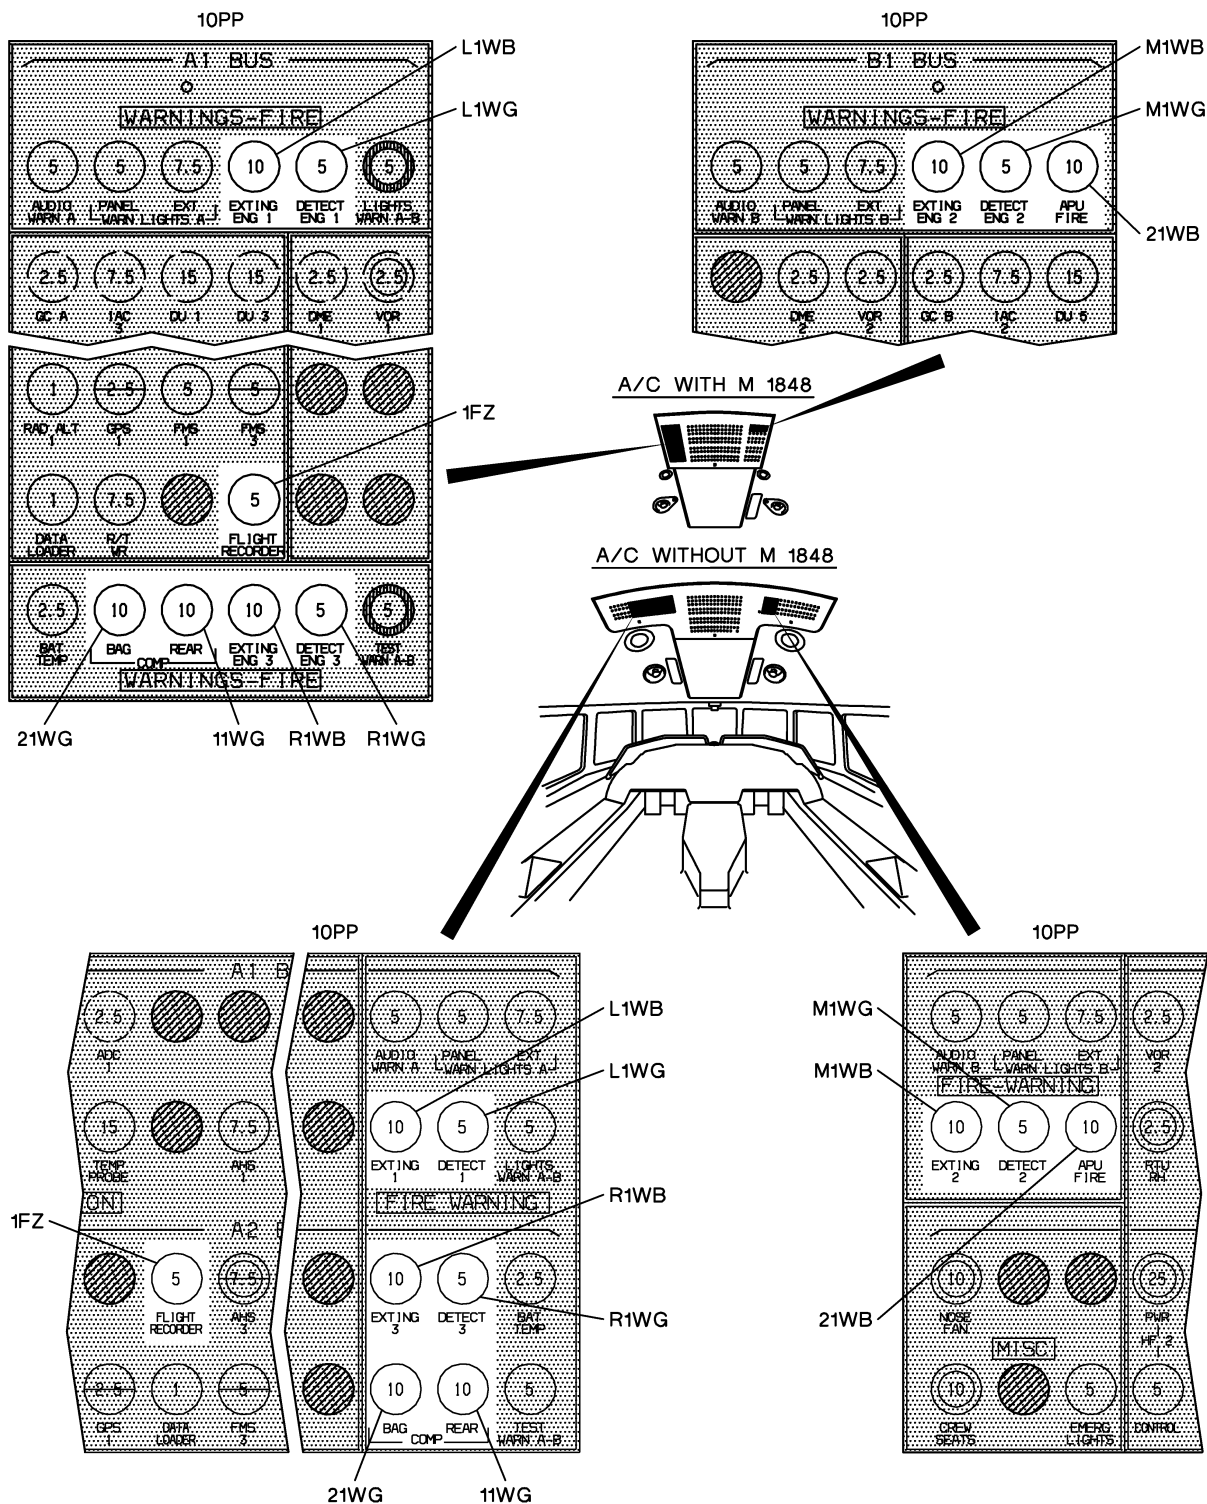

Figure 1: Location of Circuit Breakers
- (j) On circuit breaker panel (10PP), engage the following circuit breakers (fig. 1):